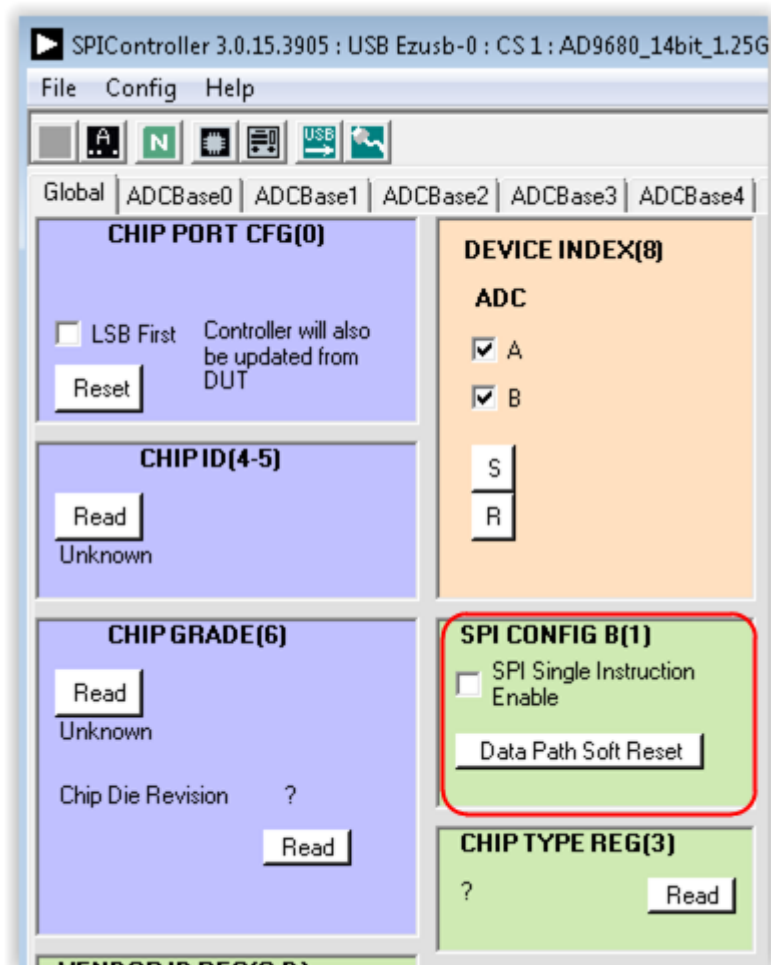

Figure 16. Issuing a data path soft reset
- Issue a **Data Path Soft Reset** through SPIController **Global** tab as shown in Figure 16